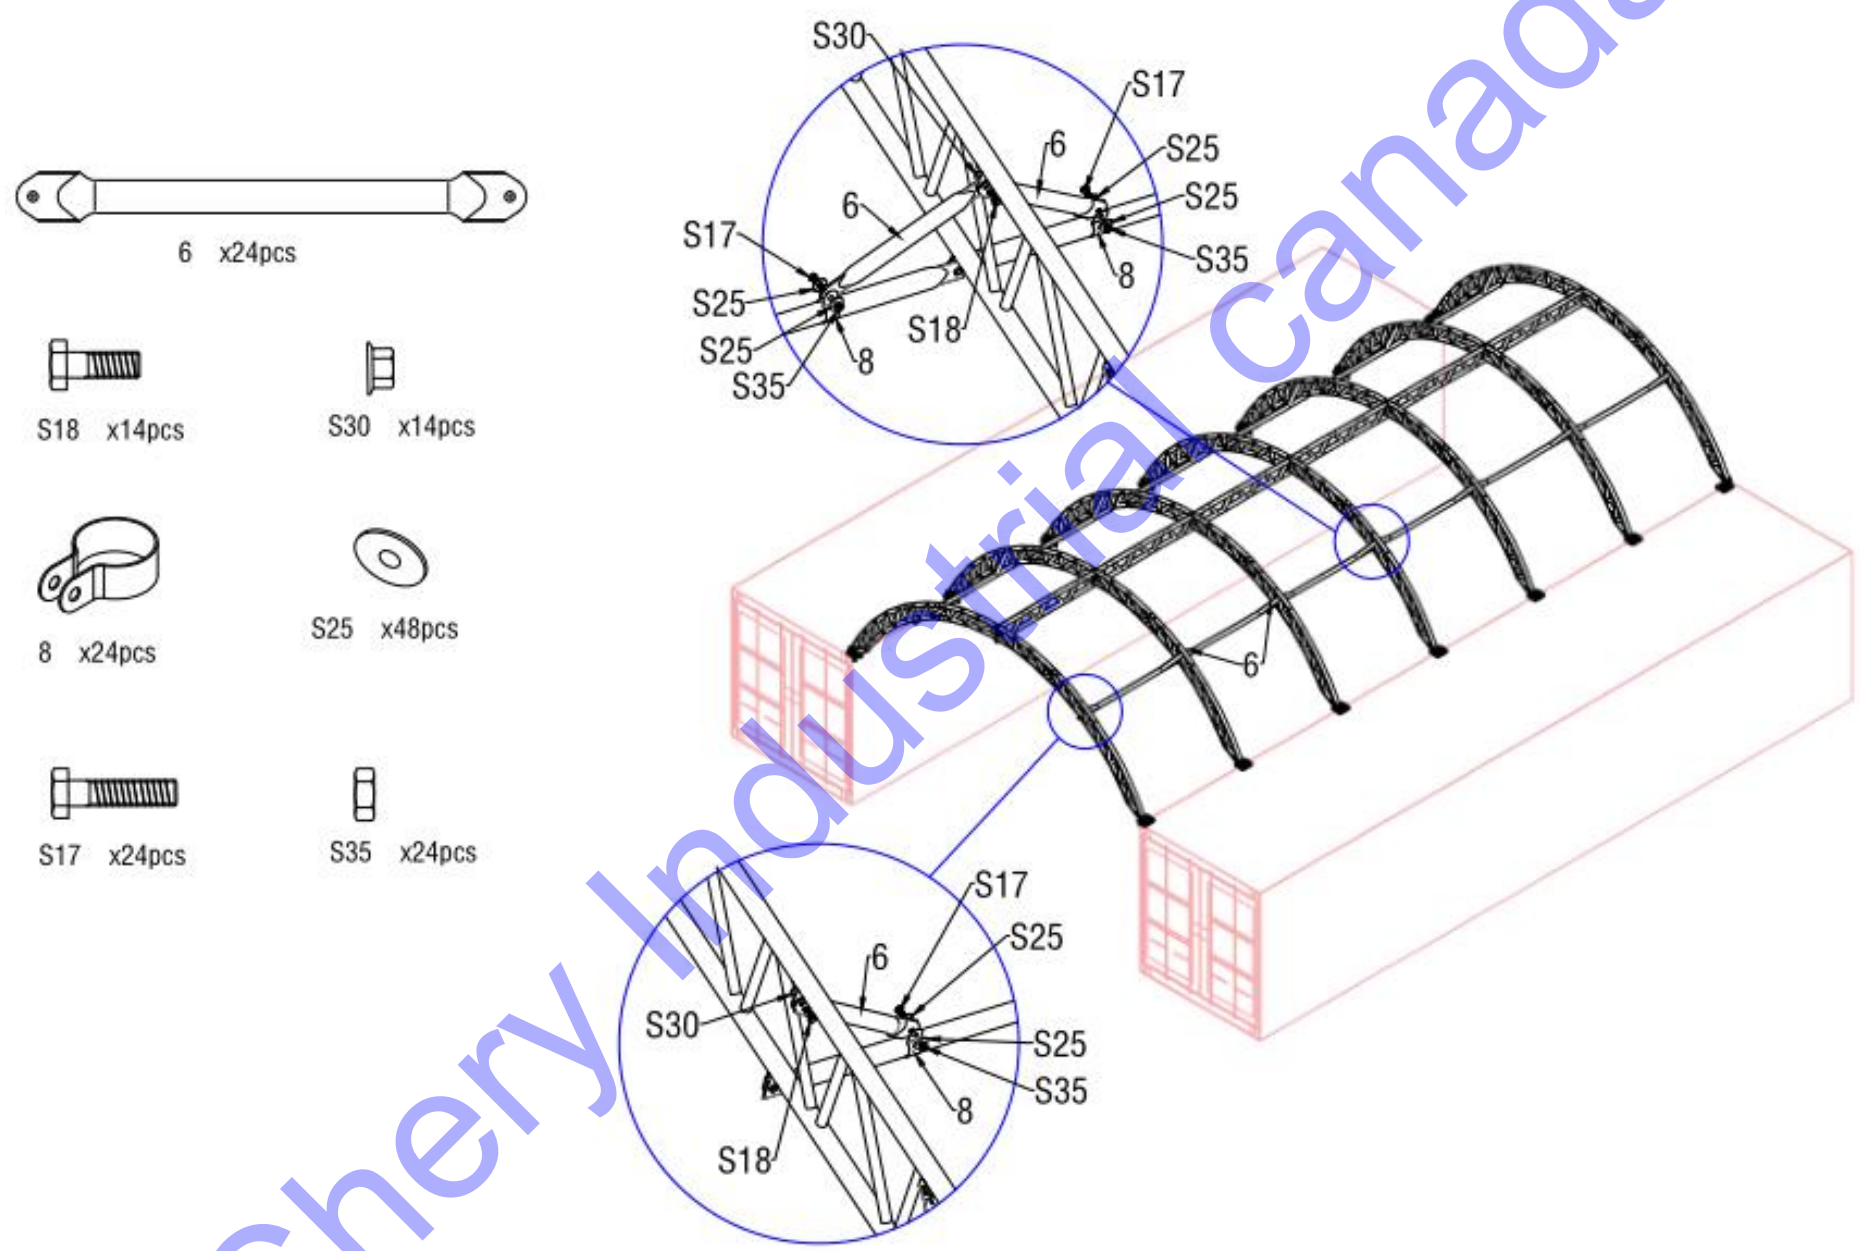

Figure 7
2.5. Connect the Diagonal Support Tube For purlin (Part no.6) to the arch and purlin (Part no.5) by bolt M10x30mm (Part no.S18) and clips (Part no.8) as below Figure 7 shows.
2.6. Install the diagonal support tubes to the arches by using clips(Part no8) as below Figure 7 shows. There are total two groups x diagonal support tubes as the figure shows.